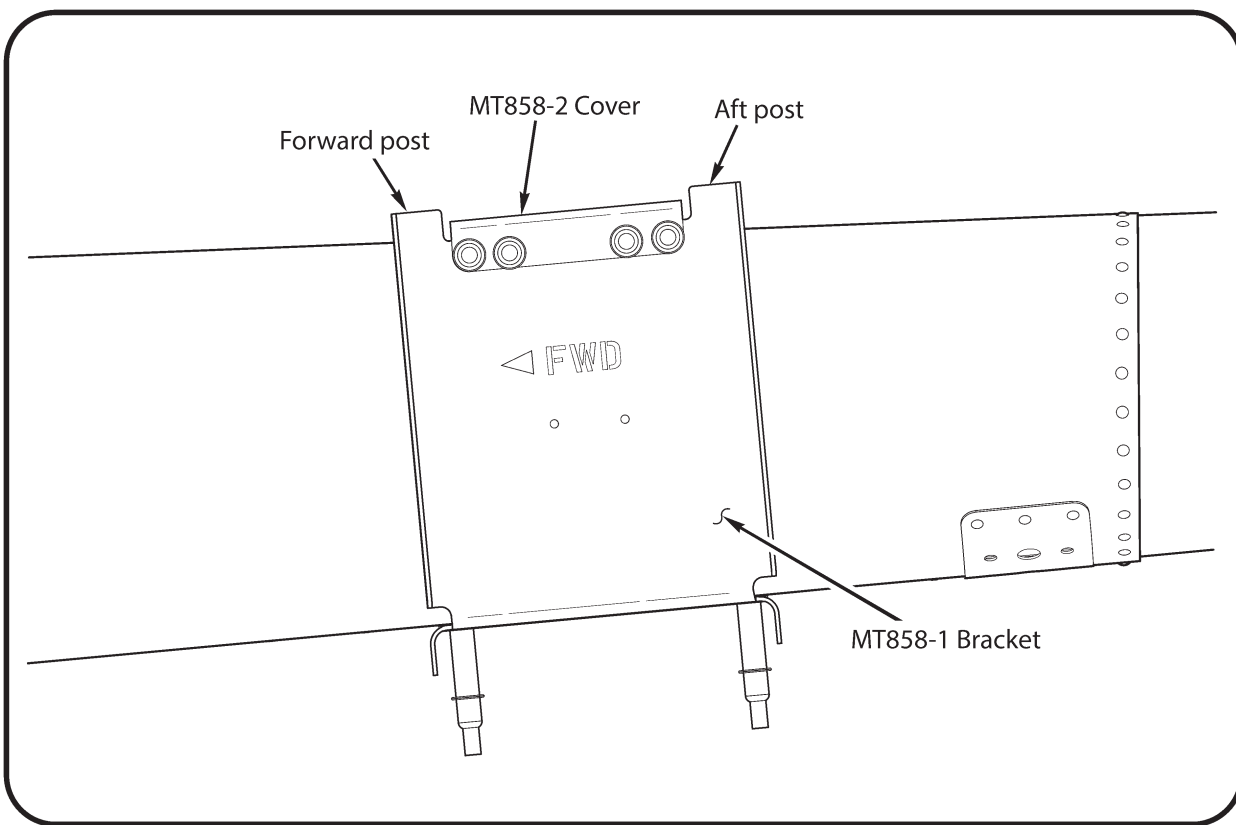

FIGURE 2 Positioning MT858 Locator tool
5. Refer to Figures 2 and 3. Place MT858-1 bracket on tailcone, with “FWD” marking as indicated. Secure with clecos at newly drilled-out rivet locations. Attach MT858-2 cover to bracket using clecos. Place protractor laterally across forward posts of bracket as shown and verify locator tool is level (use straight edge atop posts if protractor cannot contact both posts). As required, rotate locator tool on tailcone by lightly tapping with a rubber or plastic mallet (bottom holes are slotted), until protractor indicates level/zero. Repeat procedure with protractor placed laterally across aft posts.